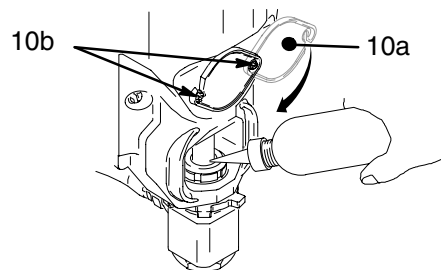

Fig. 13
7. Fig. 13. Fill packing nut with Graco TSL until fluid flows onto top of seal.